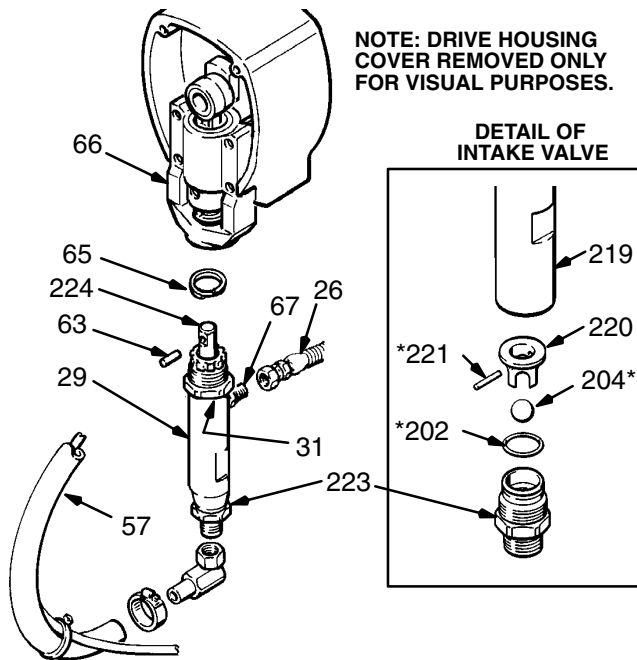

Fig 34-1
Removing the Pump *Refer to Fig 34-1.*
1. Unscrew the intake valve (223) from the cylinder (219). Remove the o-ring (202), ball guide (220), stop pin (221) and ball (204) from the valve. *Refer to Fig 34-1.*